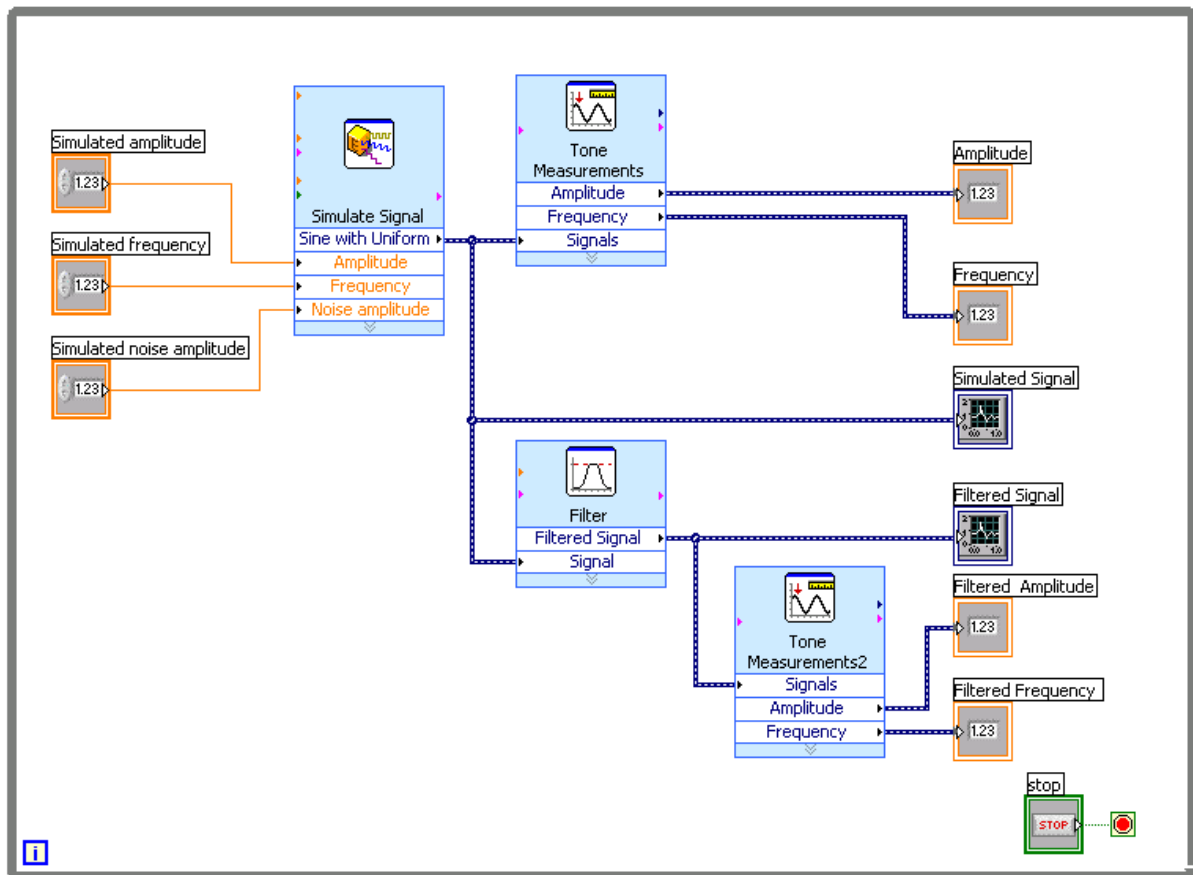

Figure 2.28
5. Open the block diagram of the VI, shown in Figure 2.28.